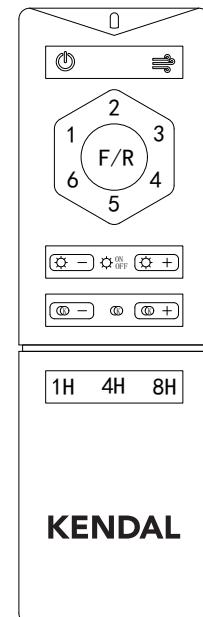

Figure 24
A. Press the "OFF" button to turn off the fan (\*this button is only used to turn off the fan, it cannot start the fan, and it will not turn off the LED lamp Fig.24)